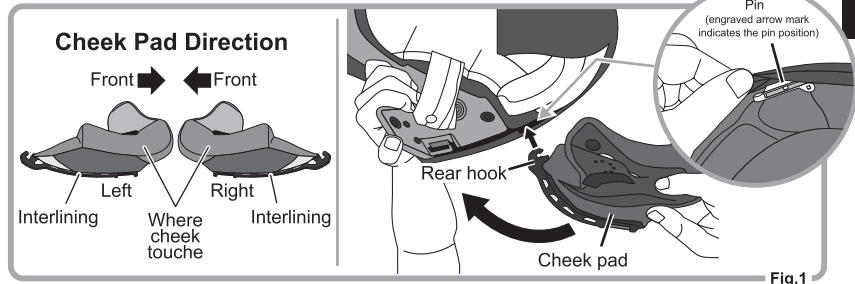

Fig.1
1. Check the sides of the Cheek Pads. Hook the rear hook of Cheek Pad on the pin inside the helmet. (Engraved arrow mark indicates the position of the pin inside the helmet).(Fig.1)